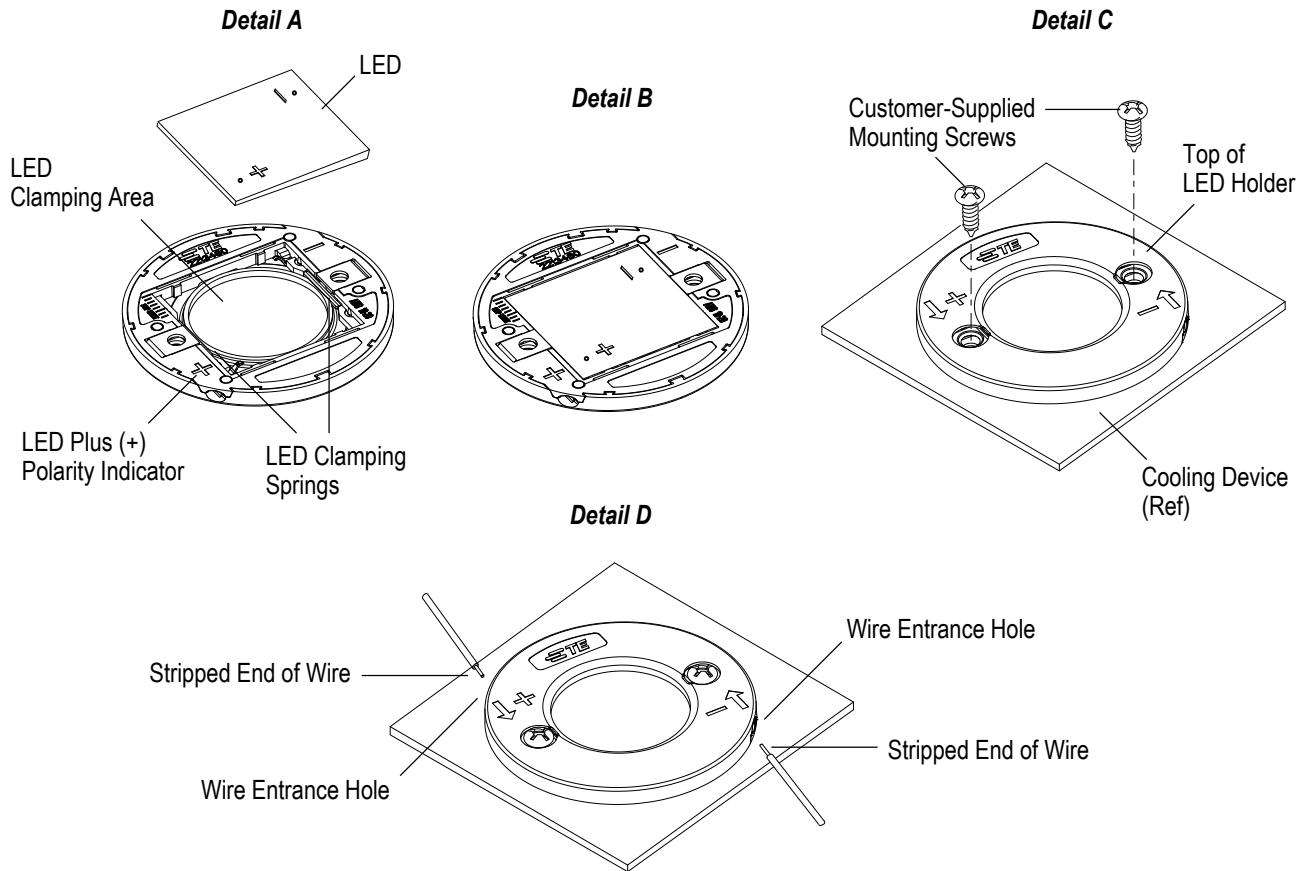

Figure 6
1. The LED must be positioned in the LED clamping area of the LED holder so that the edges are against the LED clamping springs. The LED polarity indicators must be observed when orienting the LED into the clamping area. See Figure 6, Detail A. When inserted, the LED must be held in place by the LED clamping springs. See Figure 6, Detail B.
2. The bottom side of the LED holder must be placed on the cooling device so that the screws holes align over the holes in the cooling device. The LED holder must be secured to the cooling device using two customer-supplied mounting screws meeting the requirements given in Paragraph 3.4. See Figure 6, Detail C.
3. The stripped end of each wire must be inserted into a wire entrance hole of the LED holder until it bottoms. See Figure 6, Detail D. The conductor must not be visible.